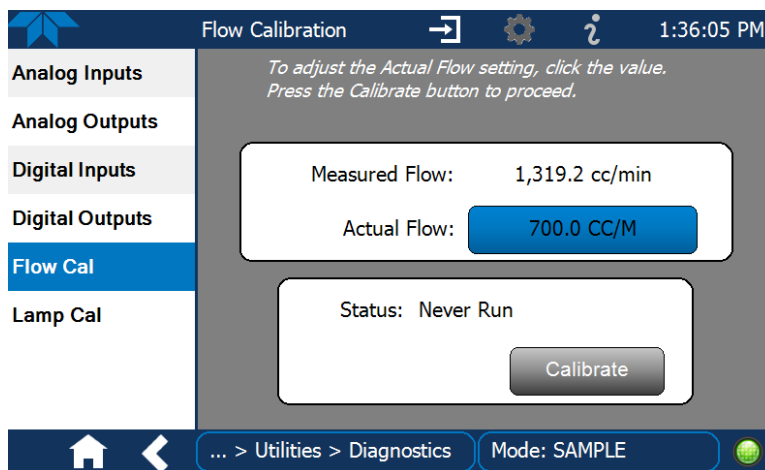

Figure 6-11. Flow Calibration Menu
1. In the Utilities>Diagnostics>Flow Cal menu (Figure 6-11), edit the Actual Flow value by inputting the reading from the external flow meter obtained in the corresponding check of the flow to be calibrated.